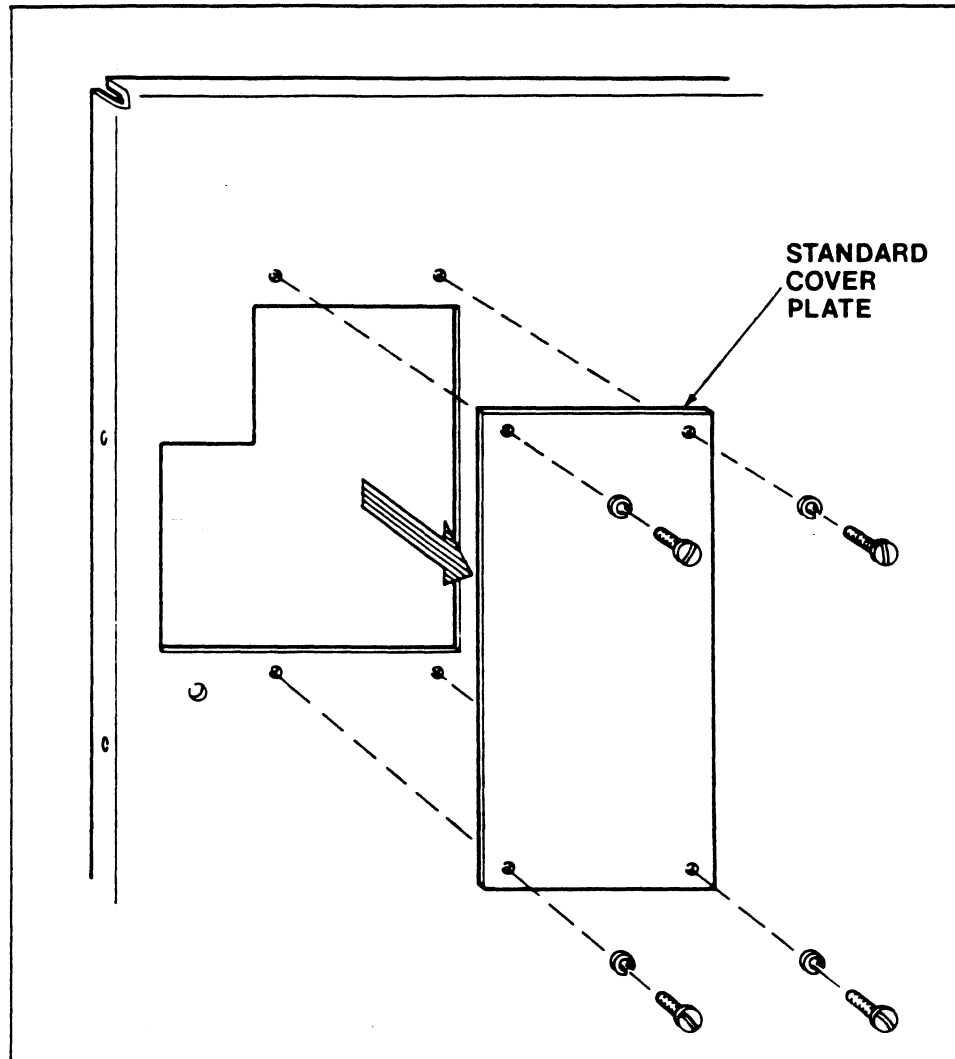

Figure 2-3 Rear Cover Plate Removal
4. Remove the standard cover plate on the rear of the terminal (see Figure 2-3). Save all screws and washers.